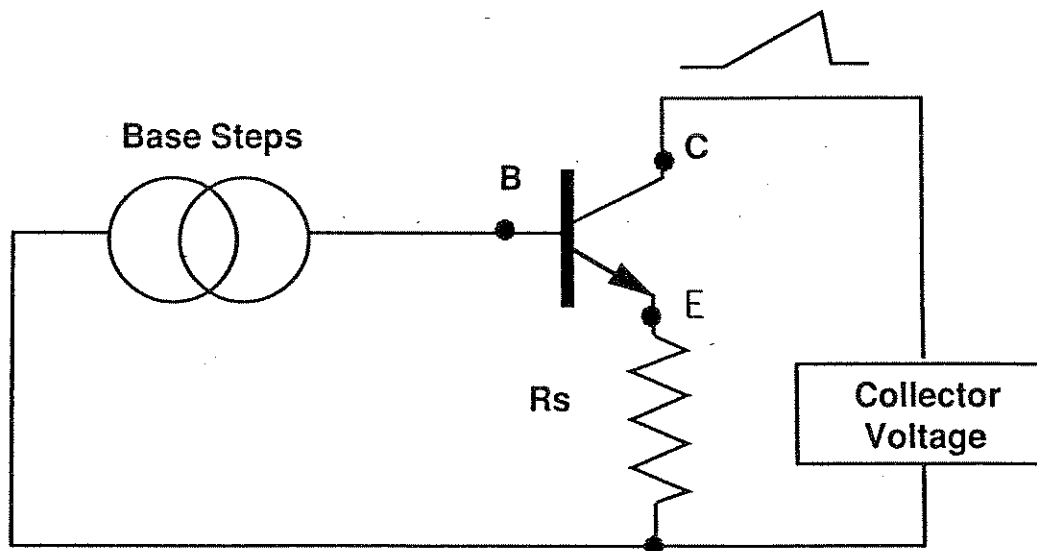

Figure 3-2: Transistor Connection Diagram
- Step 1. Put the transistor in the appropriate socket with the leads in the correct contact, as indicated on the front panel (see Figure 3-2).